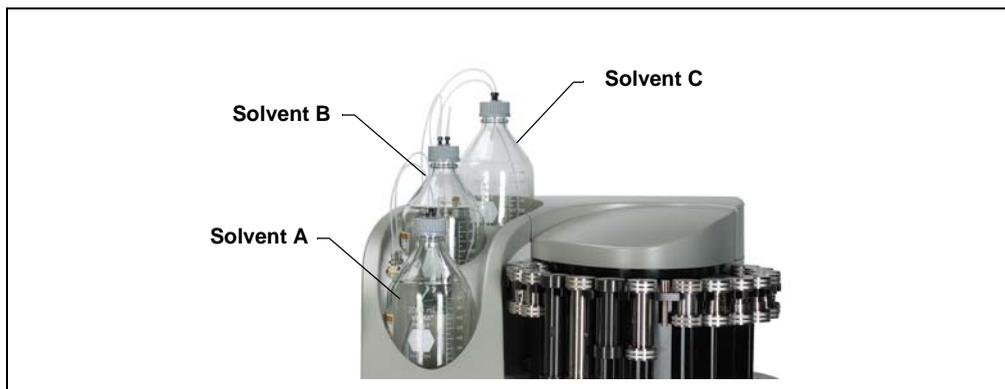

Figure 3-2. Designated Locations for Solvent Reservoirs
2. Set the reservoir in the designated location in the Dionex ASE 350 solvent reservoir tray (see Figure 3-2).